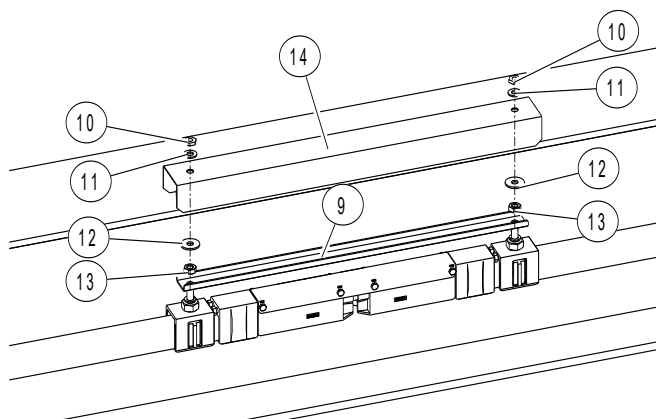

Fig. 96: Mount the bridging plate
- Place the bridging plate (Pos. 9) over the bolts of the hanger clamp and screw together with the M10 nuts (Pos. 13) with the specified torque (SW 17, torque wrench: **14 Nm**). Mount the cover (Pos. 14) onto the hanger clamp using the fastening elements, consisting of washer DIN 9021 (Pos. 12), washer DIN 125 (Pos. 11) and hexagon M10 nut (Pos. 13) and tighten with the specified torque (SW 17, torque wrench: **8 Nm**). In addition, secure the hexagon M10 nut (Pos. 10) with Loctite (see Fig. 96).